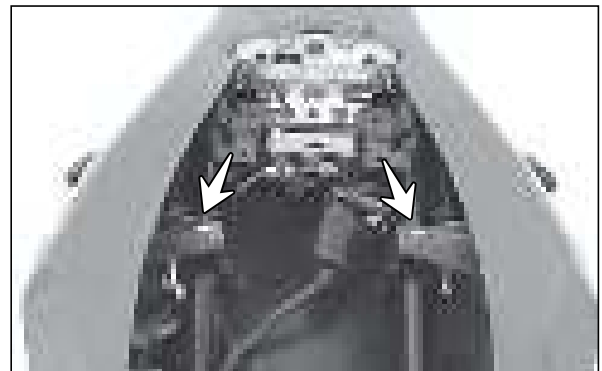

Fig. 2.27
- Remove the hexagonal bolt (M6x20 - 4 Nos.) along with the punched washers from the mounting the tail cover assembly with the chassis. (Fig. 2.27)